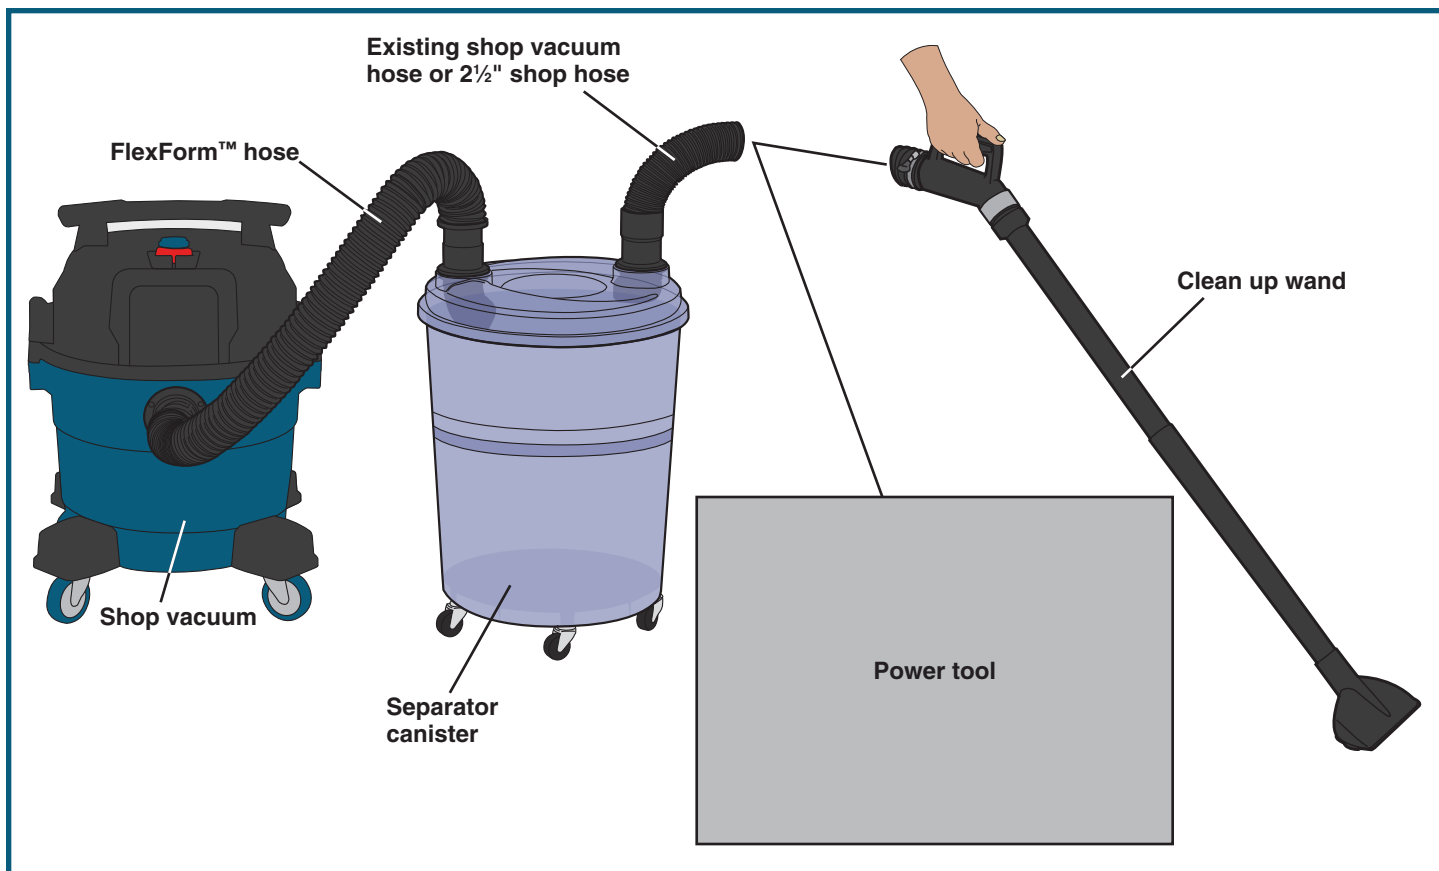

Fig. 8
7. Insert one end of your existing shop vacuum hose in the open Upper Chip Separator Port (6), and attach the other end to your power tool dust port or a shop cleanup handle/wand. **Fig. 8.**